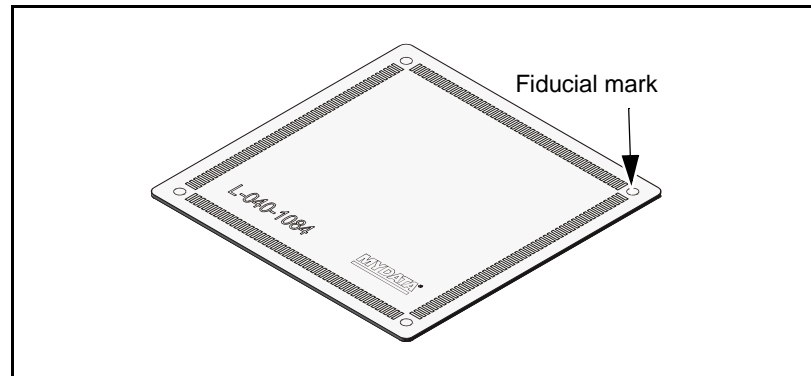

Figure 4-14. Calibration component (L-040-1084).
- Calibration component (L-040-1084), see Figure 4-14.